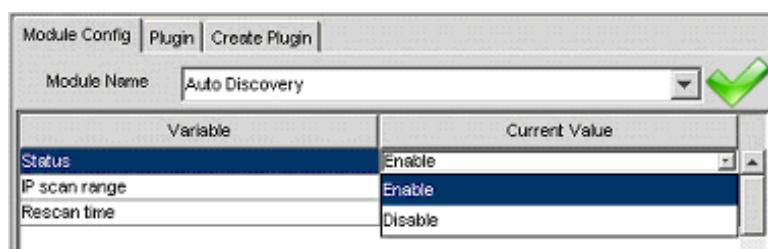

Figure 4-47: Enable/Disable the Auto Discovery
**Step 7.** You may turn on and off this option by double click on current value under **Status** row (see **Figure 4-47**) or click on the On/Off switch beside the pull-down button to enable the option.